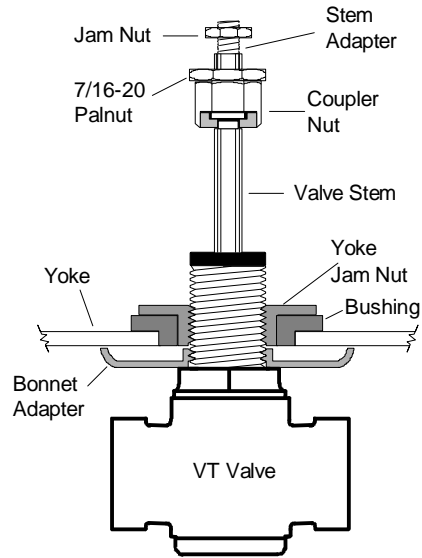

Figure 3: Assembling VT Valve to M100 Series Linkage Kits
2. Thread the bonnet adapter onto the VT valve bonnet. The flat face of the adapter should be snugged tightly against the top of the valve. (See Figure 3.) If necessary, a pipe wrench may be used to secure the adapter.